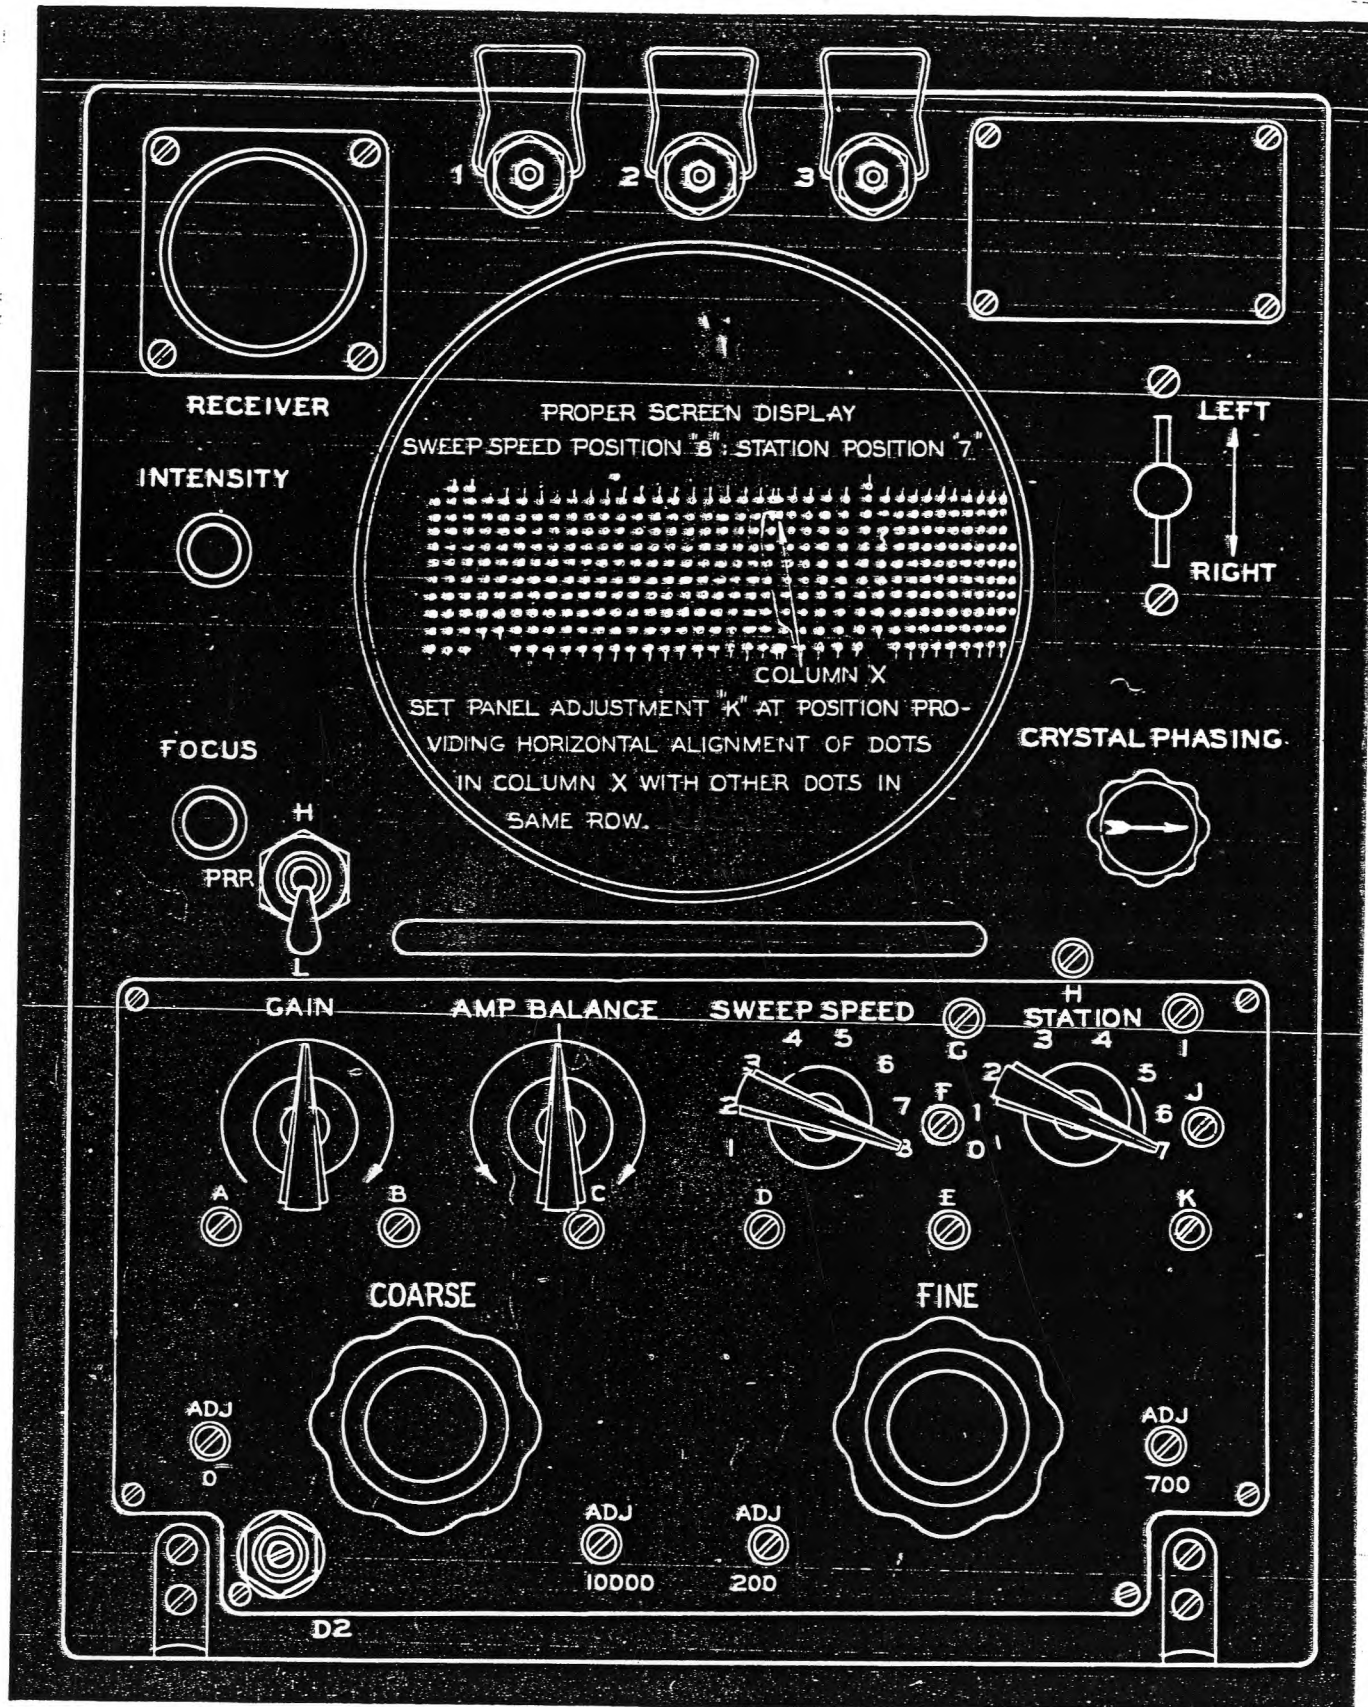

Figure 2-22A. Indicators *ID-6/APN-4 and *ID-6A/APN-4—
1. Turn "STATION" selector to position "7." (See fig. 2-22A.) The two dots now remaining at the top of column "X" are now nearly coincident with the two upper dots in the adjacent column to the left. The lower dot in column "X" is now merged with the lower dot in the column of dots to its right.
(4) COARSE AND FINE DELAY ADJUSTMENTS.—The settings for panel adjustments "ADJ. 0" and "ADJ. 10,000" determine the effective range of the B-pedestal "COARSE" control. The settings for panel adjustments "ADJ. 200" and "ADJ. 700" determine the range of the "FINE" control which may be considered as a vernier for the "COARSE" control. In the following adjustment procedures it is assumed that, during bench tests and adjustments, the function of pedestal controls and adjustments were found or made normal, and that all adjustments were left at or near their correct positions. Should the position of the "B" pedestal indicate that more than just a touch-up of the adjustments is necessary, refer to section V, paragraphs 6.b.(4)(a) and 6.b.(4)(b) for more complete instructions.